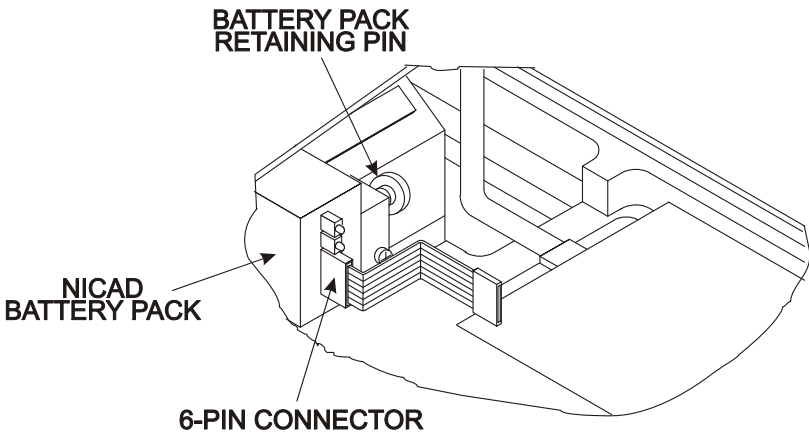

Figure C-1. Replacing NiCad Battery Pack
- ✓ Unplug the 6-pin connector from the NiCad battery pack (see Figure C-1). Gently squeeze the connector.